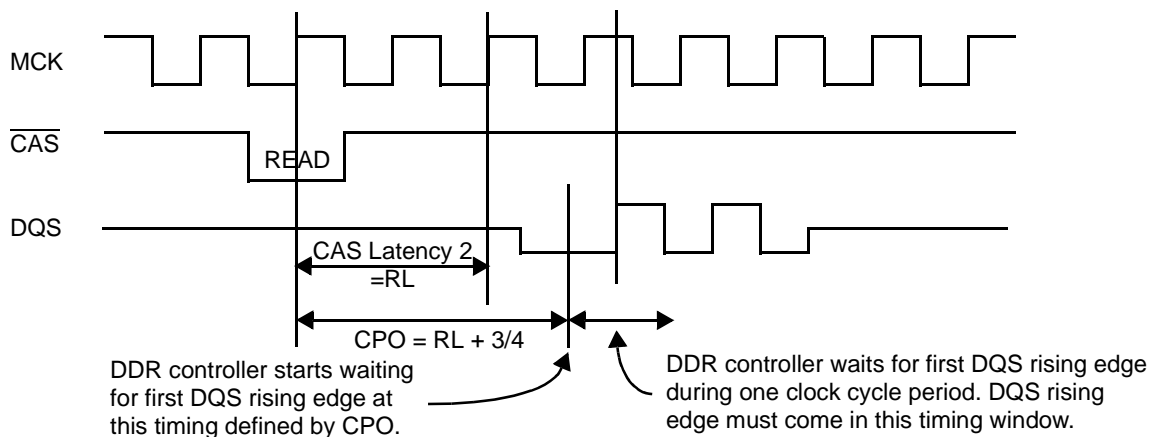

Figure 15. CAS to Preamble Timing in TIMING_CFG_2[CPO]
- CAS to Preamble TIMING_CFG_2[CPO]. CPO timing decides when the DDR controller starts waiting for first DQS rising edge from DDR memory during DQS preamble for read access as shown in **Figure 15**. *Programming the PowerQUICC™ III/PowerQUICC II Pro DDR SDRAM Controller* (AN2583) describes how to calculate CPO in terms of round trip delay. The maximum and minimum tdly_chip spec of the device are necessary for the CPO calculation. For the MSC8144x devices, the minimum tdly_chip value is 1195 ps and the maximum tdly_chip value is 2475 ps.